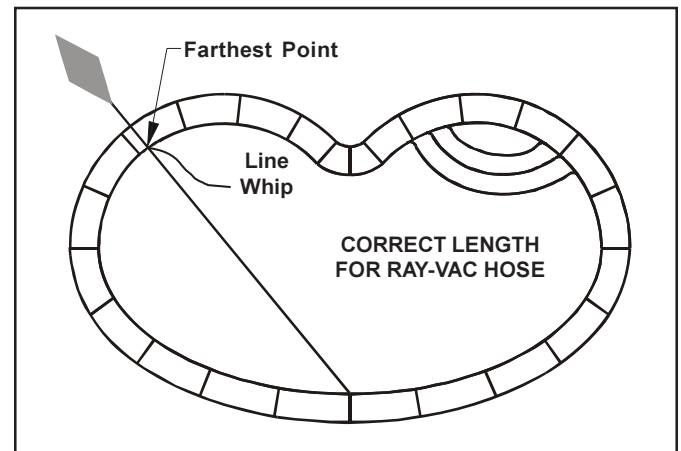

Figure 6. Correct Ray-Vac Hose Length
15. Unthread the filter screen case from the end of the hose. Thread the quick disconnect fitting back onto the hose end (see Fig. 6).